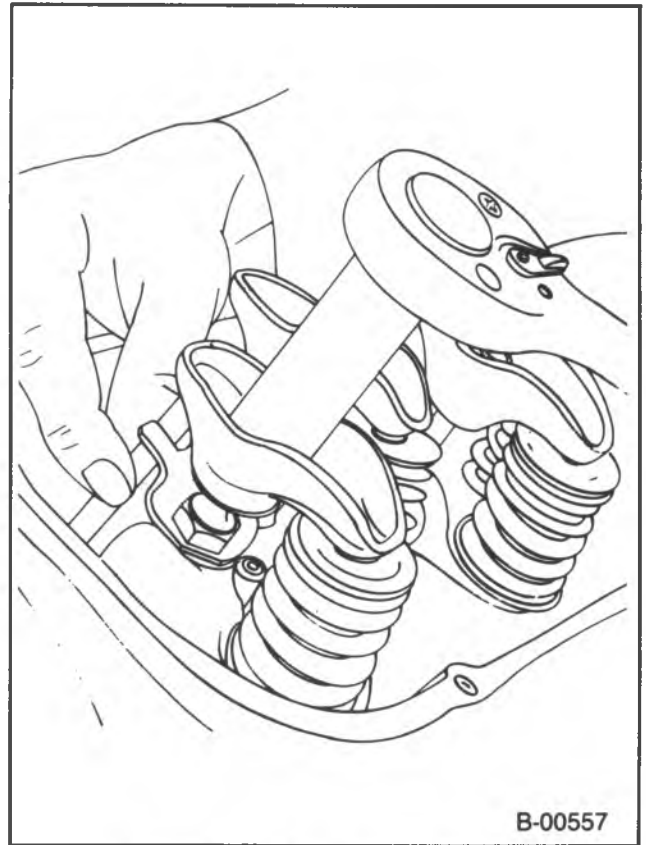

Figure 3 — Adjusting the Valves
4. Back out the adjusting nut until lash is felt at the pushrod then turn in the adjusting nut until all lash is removed. This can be determined by rotating the pushrod while turning the adjusting nut (figure 3). When the play has been removed, turn the adjusting nut in three quarters (3/4) additional turn (to center the lifter plunger).